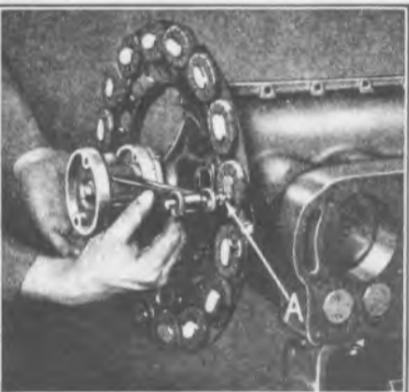

Fig. 211
- 321 With the coil support assembled to cylinder block, clamp the gap gauge to the face of the crankshaft. The gap between the end of the gauge and the face of the coils represents the thickness of the shims which should be inserted between coil support and cylinder block. With the shims installed, the gauge when revolved, should lightly touch the faces of all coils on upper half of coil support (See "A" Fig. 211), leaving a gap of .006" to .010" between end of gauge and face of coils on lower half of support to allow for the weight of transmission and flywheel. If there is any variation in the height of the cores the adjustment can be regulated by removing or installing additional shims between coil support and cylinder block. When the correct adjustment is obtained, the four magneto coil cap screws are locked in position by wiring them together with brass wire (See "C" Fig. 136).